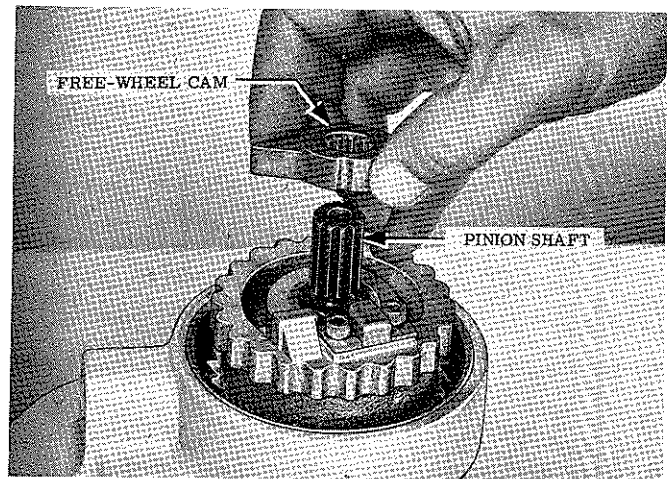

Figure 6-5. Removing Free-Wheel Cam
d. Remove handle thrust washer and lift free-wheel cam from end of pinion shaft. See Figure 6-5. Note: Before lifting off the cam, it will be wise to note its position in relation to the lockout spring plunger, as it must be reassembled in a like position.